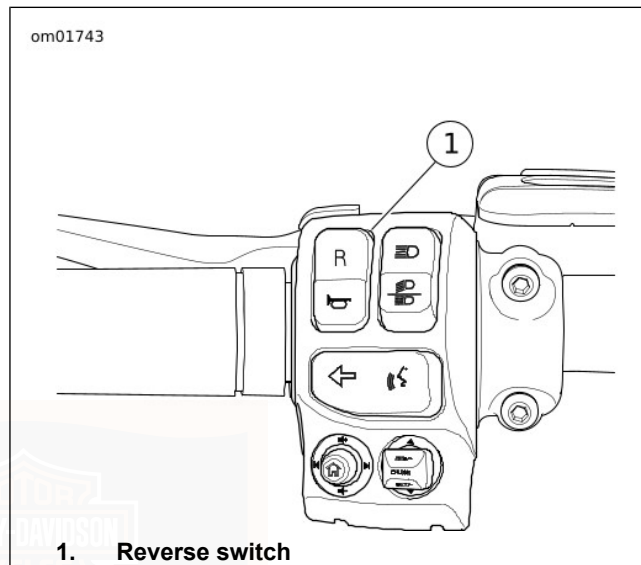

Figure 12. Reverse Controls
2. See Figure 12. With the vehicle started and in neutral, press and hold the reverse switch in the left side controls until the reverse lamp illuminates. **FLHTCUTG:** The lamp in the tachometer indicates that the reverse is enabled. See Figure 6. **FLRT:** The lamp in the speedometer indicates that the reverse is enabled. See Figure 7. Release the reverse switch. The neutral lamp turns off when the reverse lamp turns on.